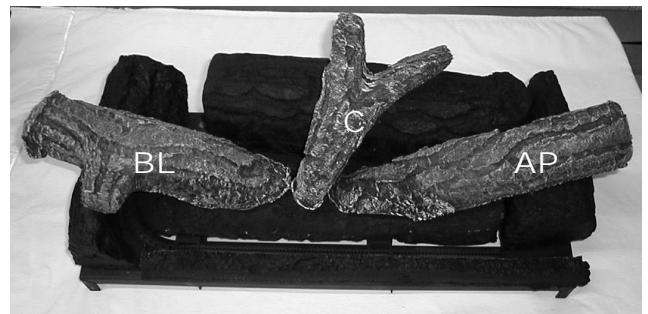

Figure 11
5. Position remaining top logs 'BL' & 'C' onto the previously positioned logs as shown in Figure 11.